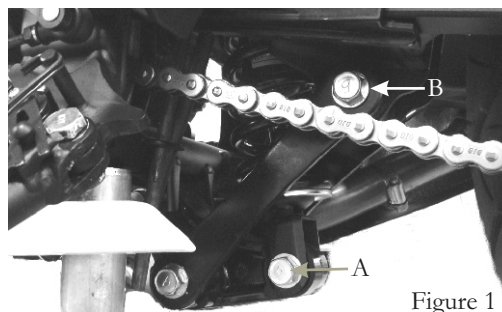

Figure 1
2. Remove the lower shock nut & bolt (A) and the rearward linkage nut & bolt (B) - going through the swingarm (figure 1).